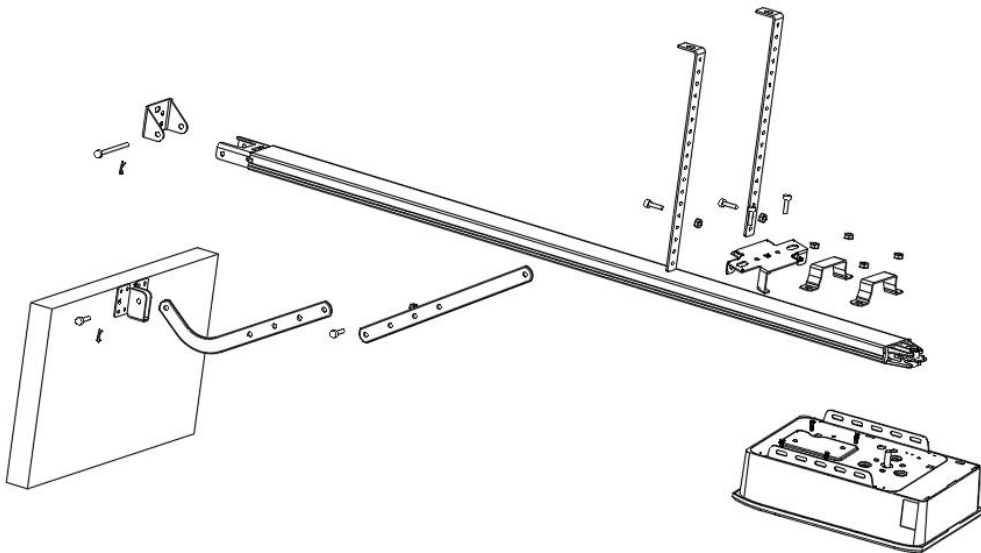

Figure 3
STEP1 (Fig.3)
STEP2 (Fig.3)
STEP3 (Fig.3, Fig.4)
STEP4 (Fig.3, Fig.5)